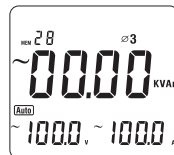

Figure 19
- Press **SELECT** again to choose the third phase  $\varnothing 3$ , see figure 19.